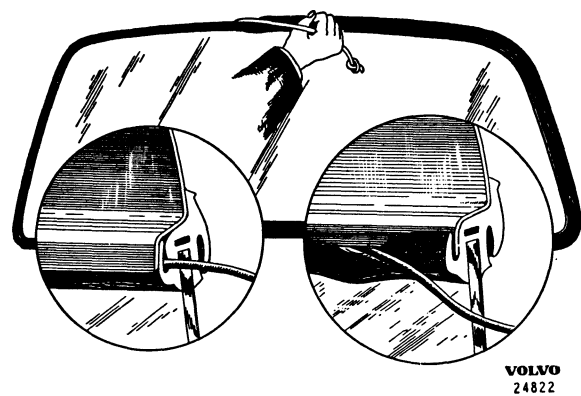

Fig. 61. Fitting windscreen
4. This will cause the rubber strip to "creep" over the sheet metal edge as shown in Fig. 61. It may sometimes be necessary to adjust the position of the windscreen with the palm of the hand. If the cord is difficult to pull out, this may cause damage to the strip, in which case strike the windscreen from inside with the palm of the hand and vice versa if the rubber strip does not "creep" over the edge of the sheet metal properly.